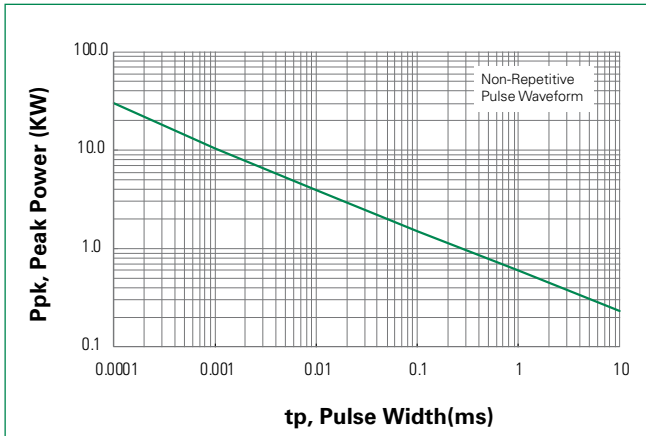
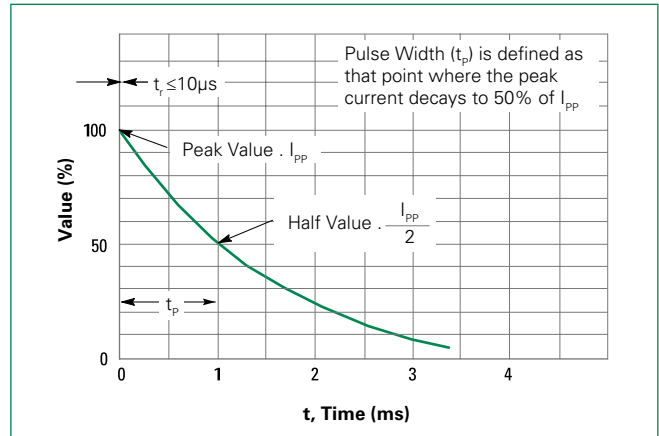

Figure 2.
Figure 3.
8. Surge current waveform per Figure 2 and derate per Figure 3 of the General Data – 600 Watt at the beginning of this group.